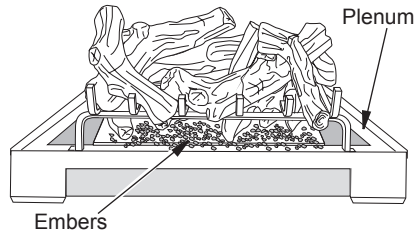

Figure 42 - Placing Ember Material on Burner
1. Pull ember material apart into pieces no larger than a dime. Place these pieces loosely and sparingly directly onto the exposed front section of the burner (see Figure 42). This will create the glowing ember appearance as the flame touches the ember material. Do not block air slots by using too much ember material in one area. It is not necessary to use all of the ember material provided.